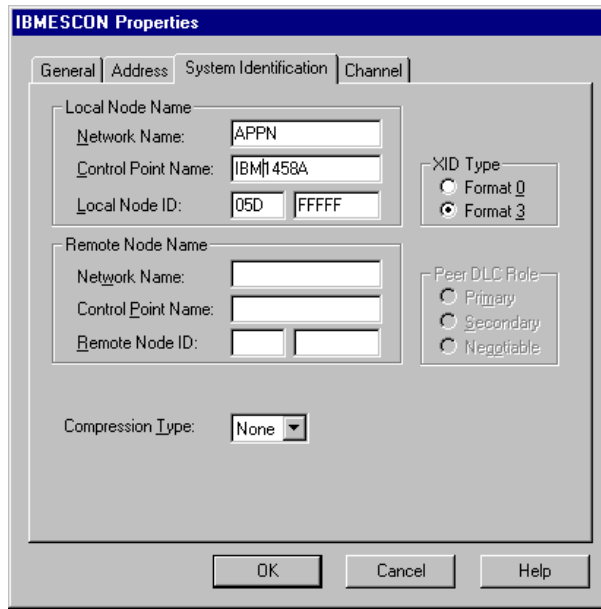

Figure 8-27. System Identification Dialog Box
5. Click on the **System Identification** tab (Figure 8-27).